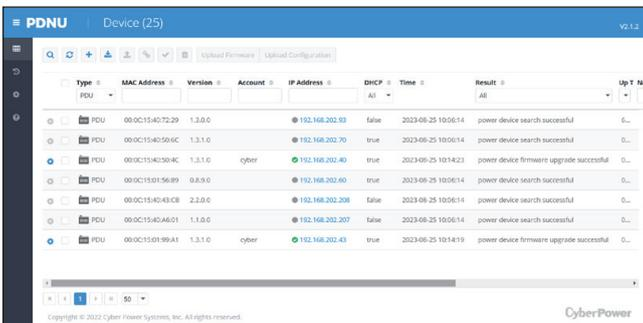

Figure 4
7. Once the firmware upgrade is implemented, you will see the Result in the main window, as shown in Figure 4.